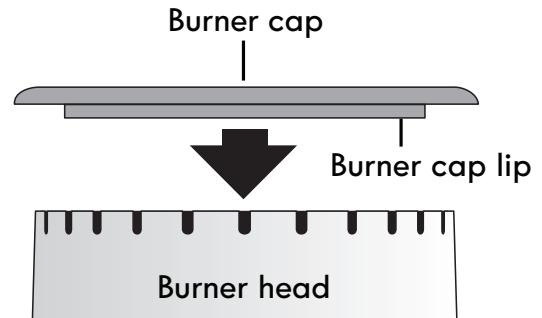
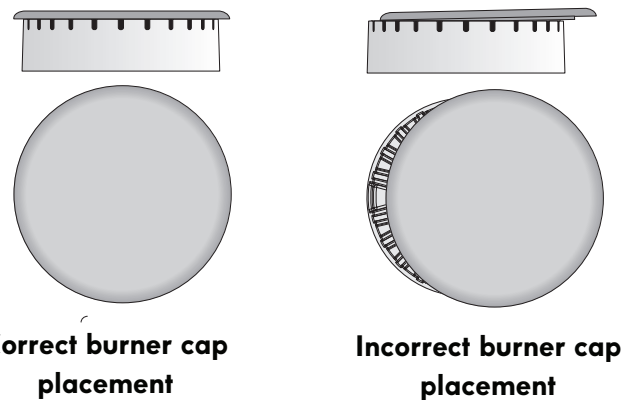

Figure 1: Burner cap on burner head
Figure 2: Correct placement (L) Incorrect placement (R)
- On round style burners, the burner cap lip (Figure 1) should fit snug into the center of burner head and rest level. Refer to Figure 2 for correct and incorrect burner cap placement.